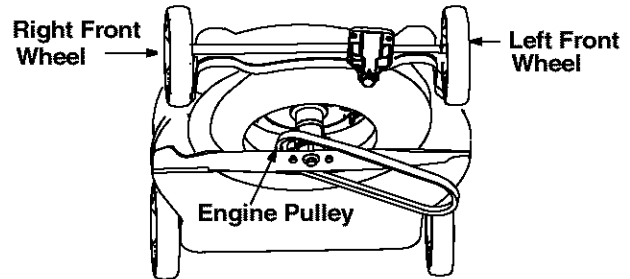

Figure 12
- Slide the belt off the engine pulley and around the blade. See Figure 12.